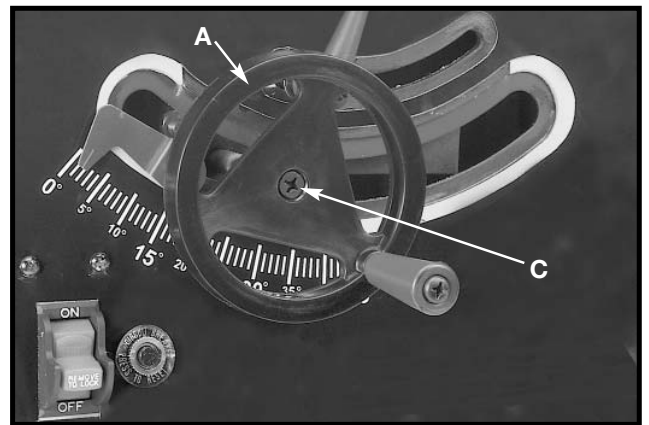

Fig. 7
3. Fasten the handwheel (A) Fig. 7 to the shaft using an M6x1x12mm flat head screw (C)